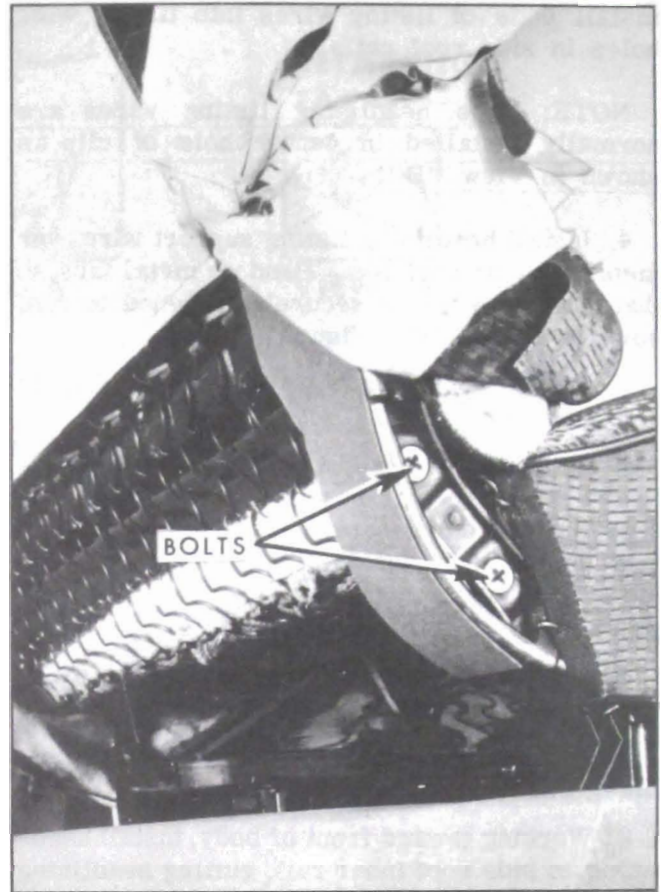

Figure 13-59 — Front Seat Back Attachment
5. At each end of seat remove hog rings securing lower edge of seat back trim from seat bottom frame. Then raise seat back trim to expose bolts securing seat back reinforcement to seat bottom frame. See Figure 13-59.